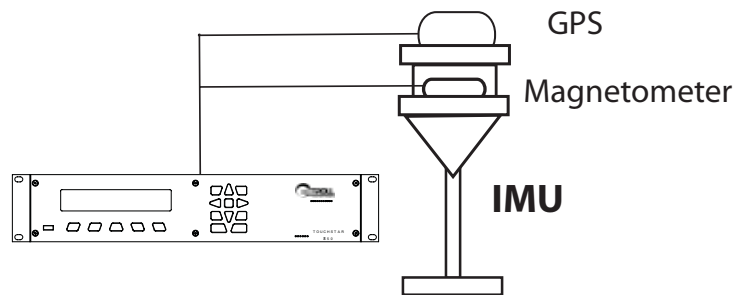

Figure 1-2. VanLink IMU Configuration
- Automatic tracking of the HD signal with self-optimization of the vehicle transmitter antenna in real time using the V750's preprogrammed ability to analyze and compensate for signal integrity in reference to the studio's coordinates and the vehicle's GPS/IMU location feedback. (see Figure 1-2)